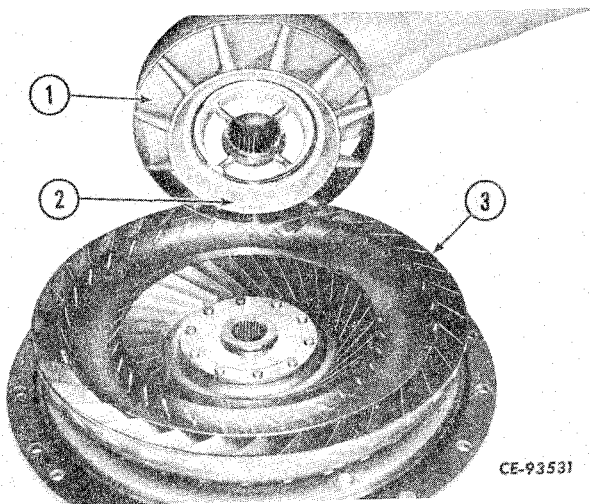

Figure 3-18
Lift the stator (1, Fig. 3-18) from the turbine (4). The word "FRONT" in raised letters (2) appears on the lip of the stator facing the turbine. This must be assembled in the same manner. Remove the turbine (3).